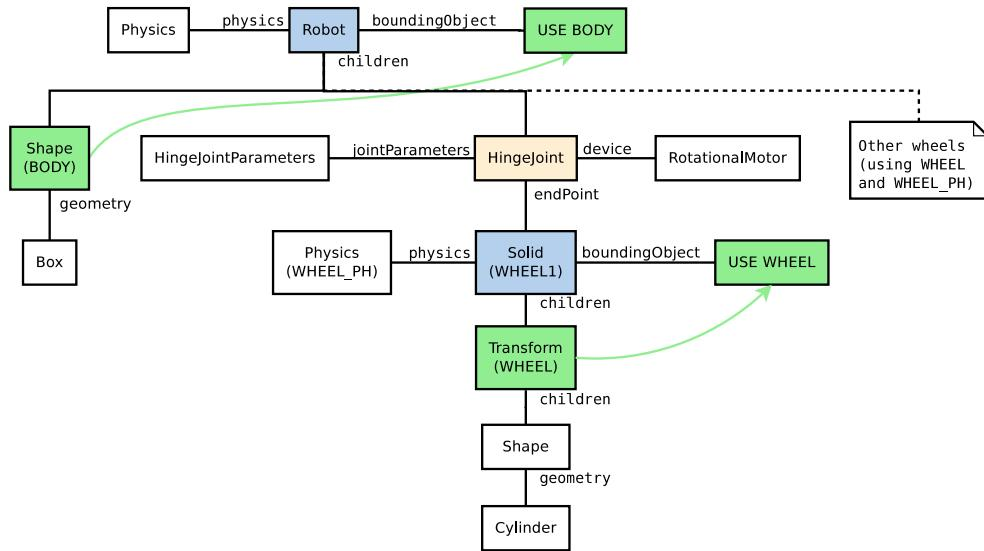

Figure 7.16: Low level representation of the 4 wheels robot
*Add a Shape node containing a Box geometry to the Robot node. Set the color of the Shape to red. Use the Shape to define also the boundingObject field of the Robot node. The dimension of the box is (0.1, 0.05, 0.2). Add a Physics node to the Robot. The figure 7.16 represents all the nodes defining the robot. So far only the direct children nodes of the root Robot node are implemented.*
*Complete the missing nodes to get the same structure as the one depicted in figure 7.16. Don't forget the Physics nodes. Rotate the Transform node by an Euler axis and angle of  $(0, 0, 1, \text{Pi}/2)$  in order to inverse the x-axis and the y-axis. The Cylinder should have a radius of 0.04 and a height of 0.02. Set the color of the wheels to green.*